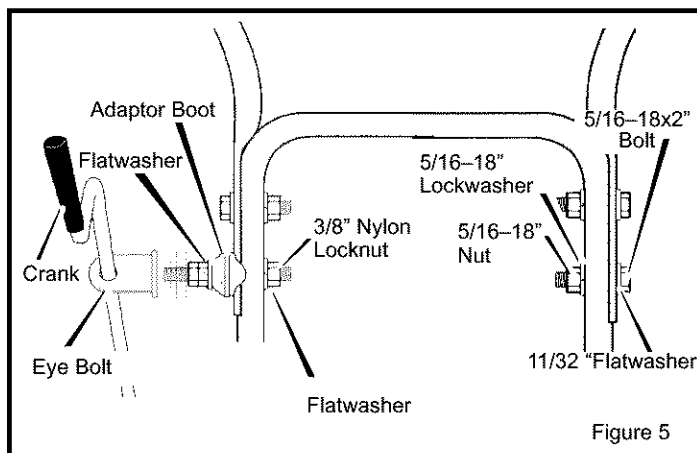

Figure 5
4. Install hardware supplied in the parts bag (bolt, flatwasher, lockwasher and hex nut) into right lower hole of upper handle (See Figure 5). Do not tighten until all bolts are in place.
6. Install the eye bolt through the lower hole on the left hand side of the handle. (See Figure 5).